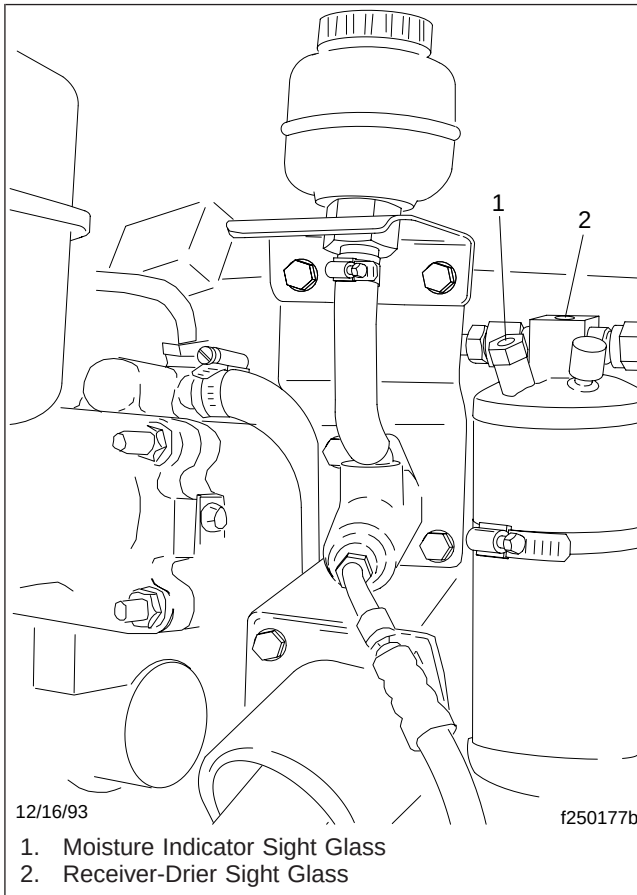

Fig. 1, Receiver-Drier
1. If equipped with a moisture indicator sight glass, check the color of the moisture indicator. See **Fig. 1**, Ref. 1.
2. *On R-12 refrigerant systems only*, check the receiver-drier sight glass. See **Fig. 1**, Ref. 2.